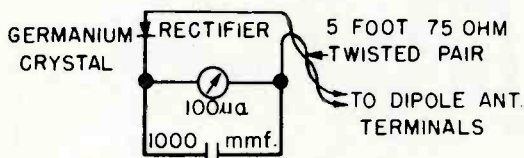

Fig. 1
2. Field Strength Meter (Fig. 1). This meter may consist of a D.C. 100 microampere (full scale) meter, shunted by a 1000 mmf. mica by-pass condenser; a crystal rectifier connected in series with the meter and a five foot, 75 ohm twisted, pair of leads. The open ends of the leads are connected to the dipole antenna terminals. Connect condenser directly across meter terminals, and crystal directly to one terminal of meter. Keep connecting leads as short as possible.